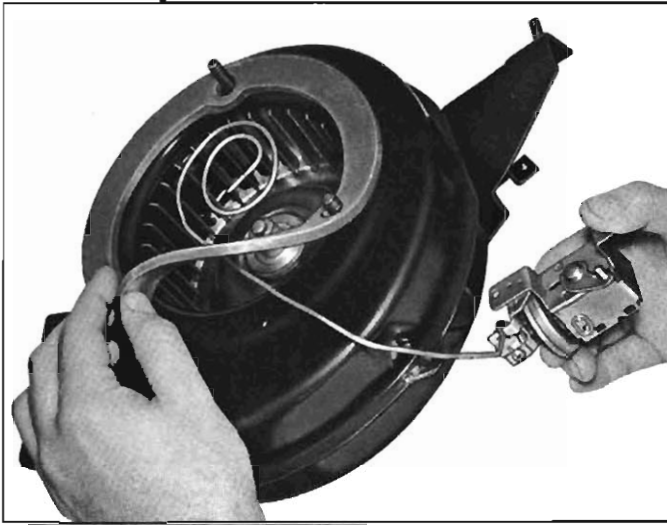

Fig. 11-27—Thermostatic Switch Removal
**NOTE:** If the blower housing was disassembled from the evaporator case, position the thermostatic switch capillary tube (fig. 11-27) and reassemble the blower to the evaporator case, before installing the evaporator core assembly into the evaporator case.
4. If the thermostatic switch is to be removed, remove nuts from the two lower studs attaching the blower housing to the evaporator case. Pull lightly on the lower portion of the blower housing to achieve a slight opening between the blower housing and evaporator case, thereby permitting withdrawal of the thermostatic switch capillary tube. See fig. 11-27.